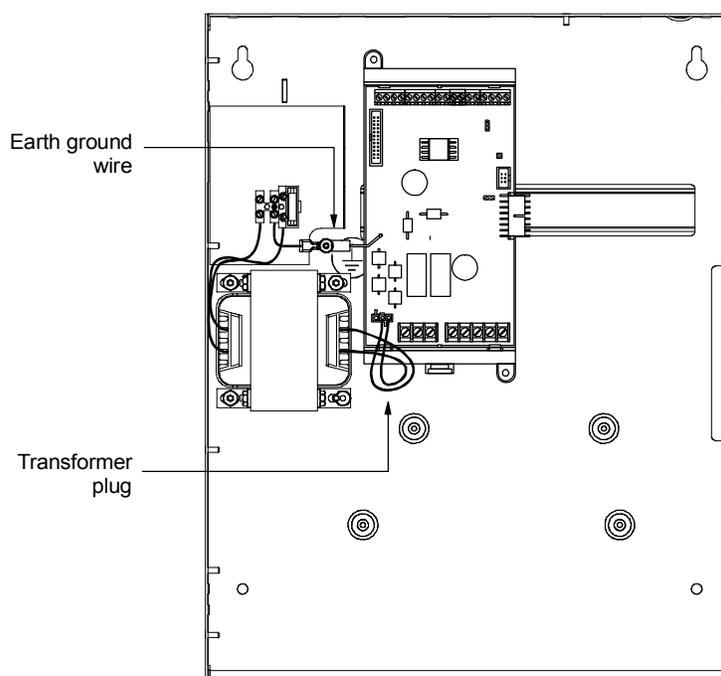

Figure 6-5: PS6 card installation
1. Set the PS6 card on the left end of the DIN rail as shown in Figure 6-5 then engage the locking mechanism to prevent the PS6 card from moving.